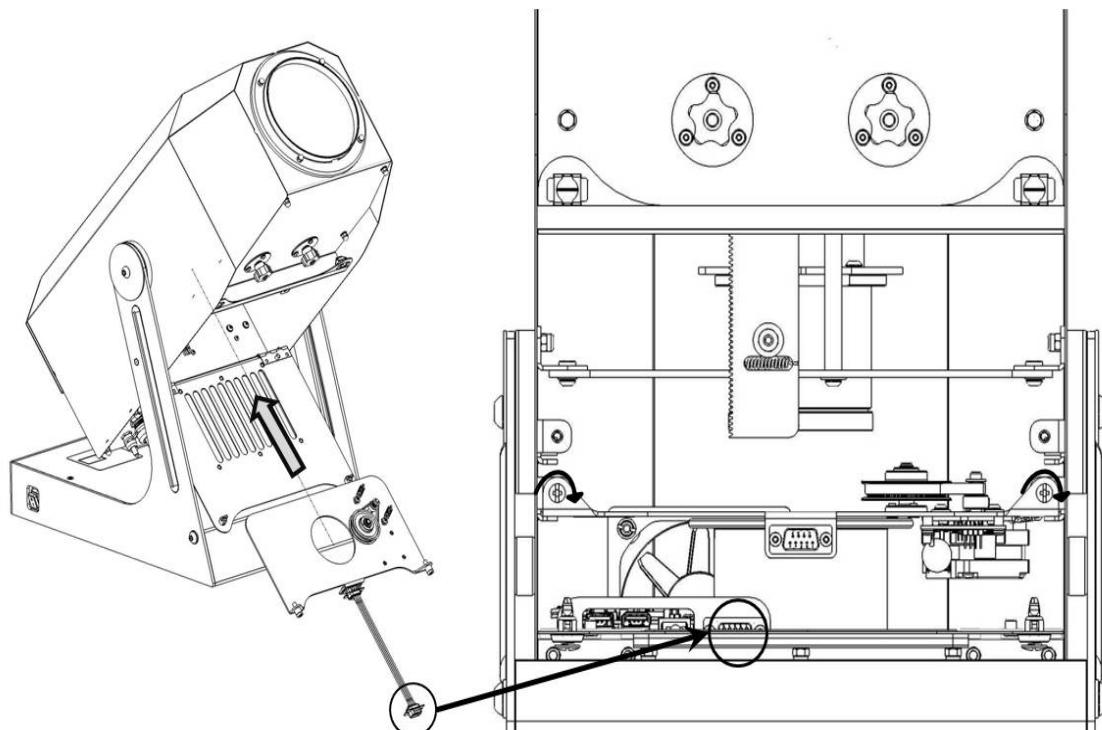

Fig.11
2. Insert component 1 into the projector as in Fig.11
3. Tighten the fixing screws of component 1 (Fig.11).
4. Connect the plug (Fig.11)